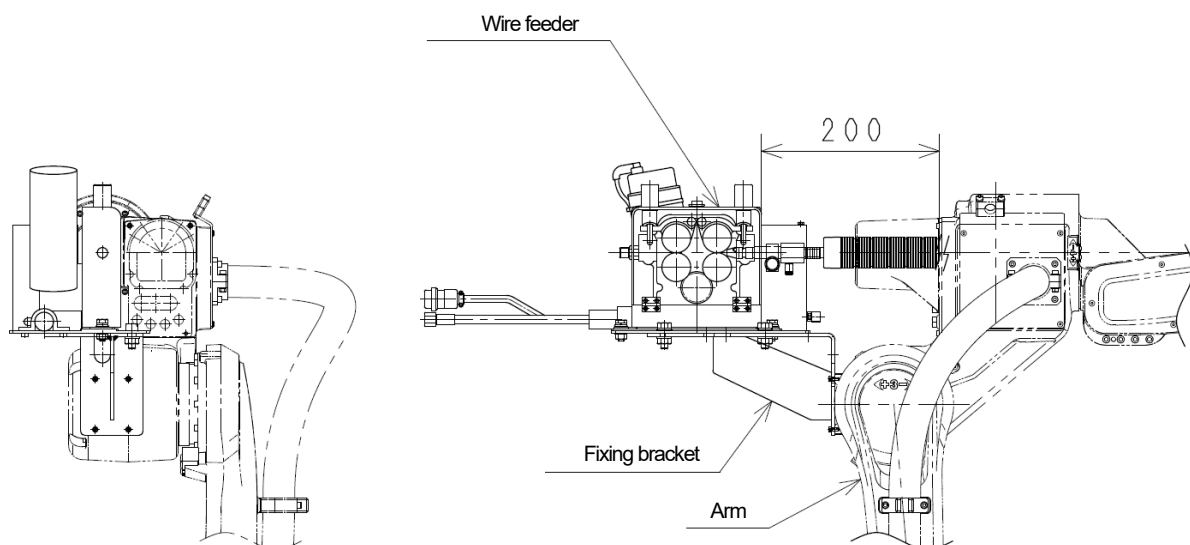

Figure 1.3 Outline view of mounting wire feeder (Procedure 3)
3. Referring to Figure 1.3, fix the wire feeder temporarily. For the final adjustment, mount the wire feeder so that the radius of the all-in-one power cable is about 100 mm when JT5 is set at 135° as shown in Figures 2.4 and 2.9.